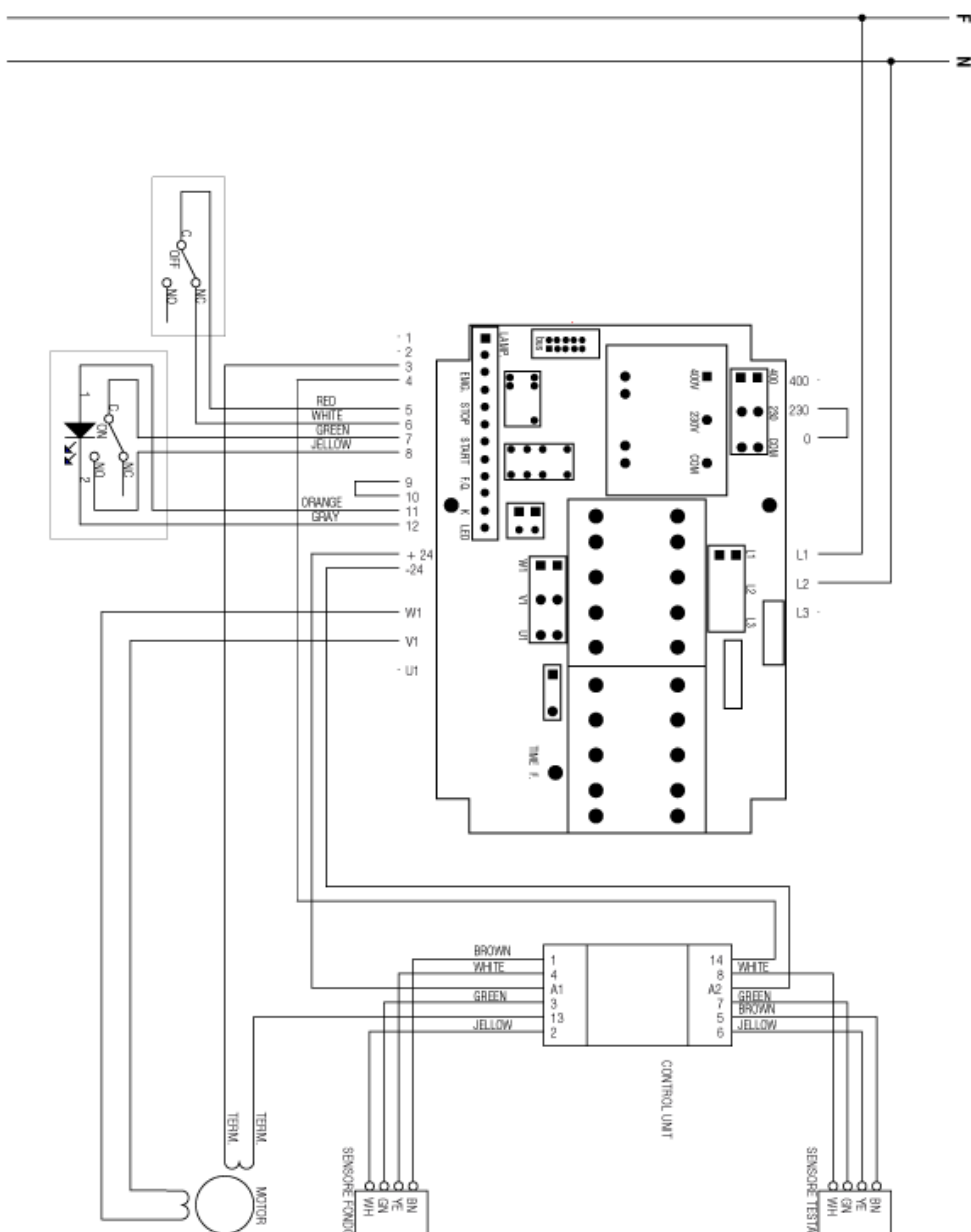

Fig.2.6.2
2.6.2 - Single-phase wiring diagram at 230V (Fig. 2.6.2)